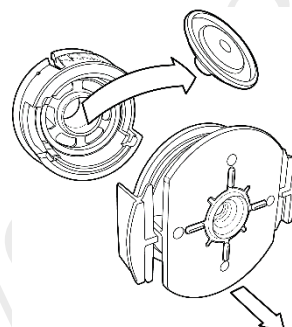

Figure 4
12. Reassemble the valve and replace it as shown in Figures 4 and 5.
9. Reassemble the valve and replace it as shown in *Figures 4 and 5* in the previous section.
4. Reassemble the valve and replace it as shown in *Figures 4 and 5* in the previous section.